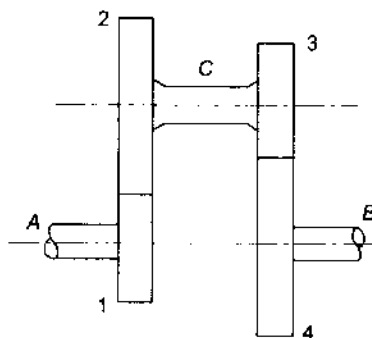

Fig.12.22 Reverted gear train
- 1 In a reverted gear train, as shown in Fig.12.22, two shafts A and B are in the same straight line and are geared together through an intermediate parallel shaft C . The gears connecting the shafts A and C have a module of 3 mm and those connecting the shafts C and B have a module of 4.5 mm. The speed of shaft A is to be greater than 12 times the speed of shaft B . The ratio of each reduction is the same. Find suitable number of teeth on all gears. The minimum number of teeth is 18. Also find the exact velocity ratio and the distance of shaft C from A and B .